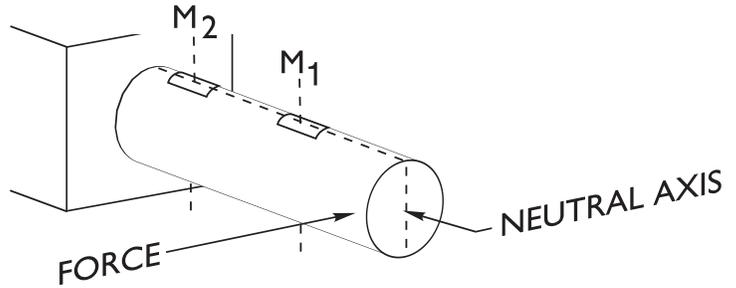

FIGURE 4
- 1) The Weigh Bar is insensitive to side loading (See Figure 4)